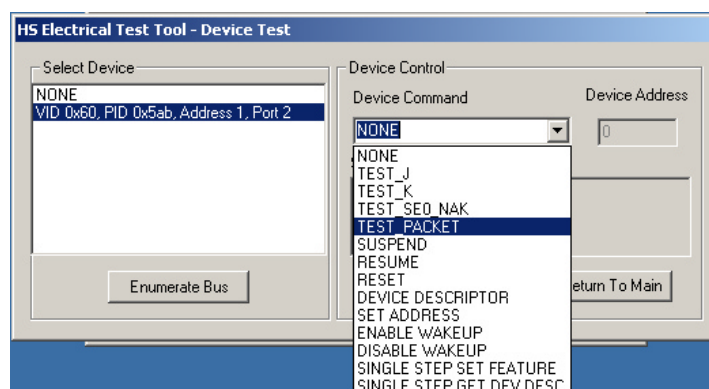

Figure 5. Device Upstream TEST\_PACKET
9. Select TEST\_PACKET from the Device Command drop down menu and click [EXECUTE]. This forces the device under test to continuously transmit test packets (Figure 5).